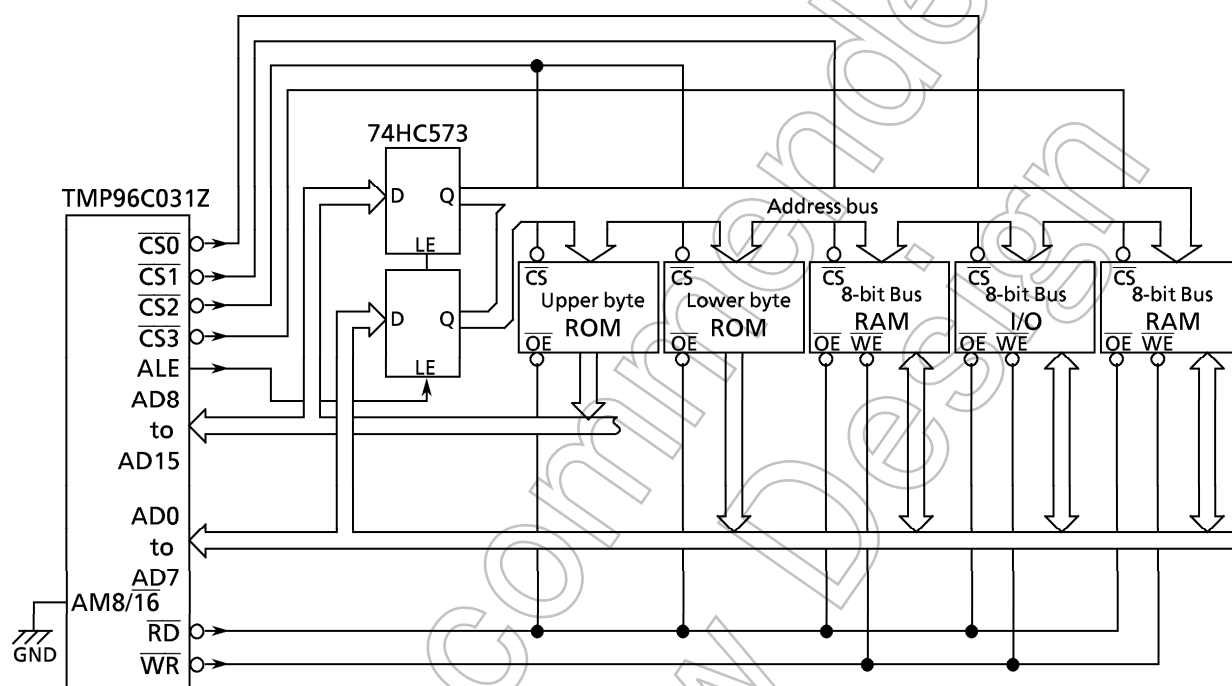

Figure 3.6 (9) Example of External Memory Connection (ROM = 16-bit, RAM and I/O = 8-bit)
(1) Connection example 1
Figure 3.6 (9) is an example (1) in which an external memory is connected to the TMP96C031Z. In this example, a ROM is connected using 16-bit Bus; a RAM is connected using 8-bit Bus.